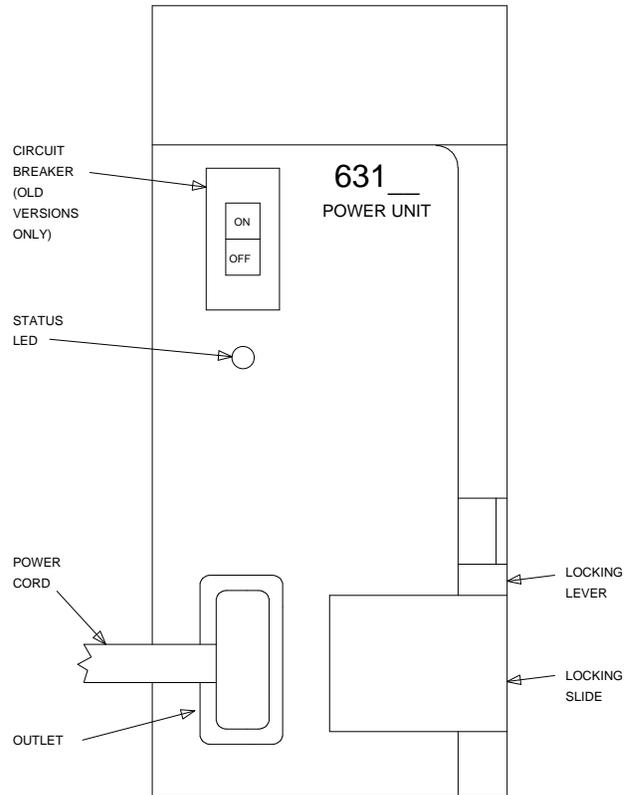

Figure 3-10. 631-Type Power Unit
17. Connect the power cords to the power units. The power cords are the white cables equipped with plugs that are run through the slots in the front of each carrier (see Figure 3-10).